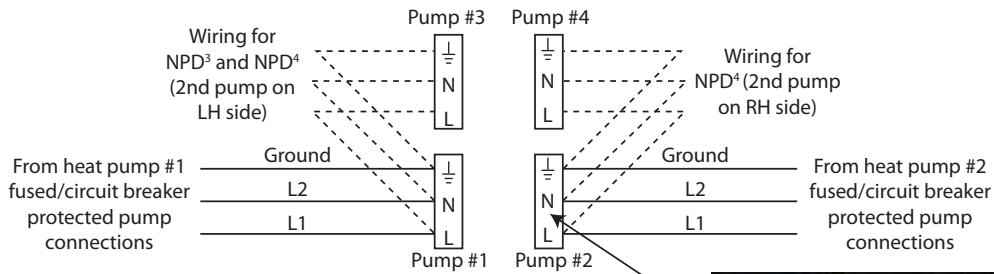

Figure 17: Pump field wiring
1. Wire the circulator pumps to the heat pumps as shown in Figure 17. Follow all electrical and local codes for wiring and fuse/breaker sizing.